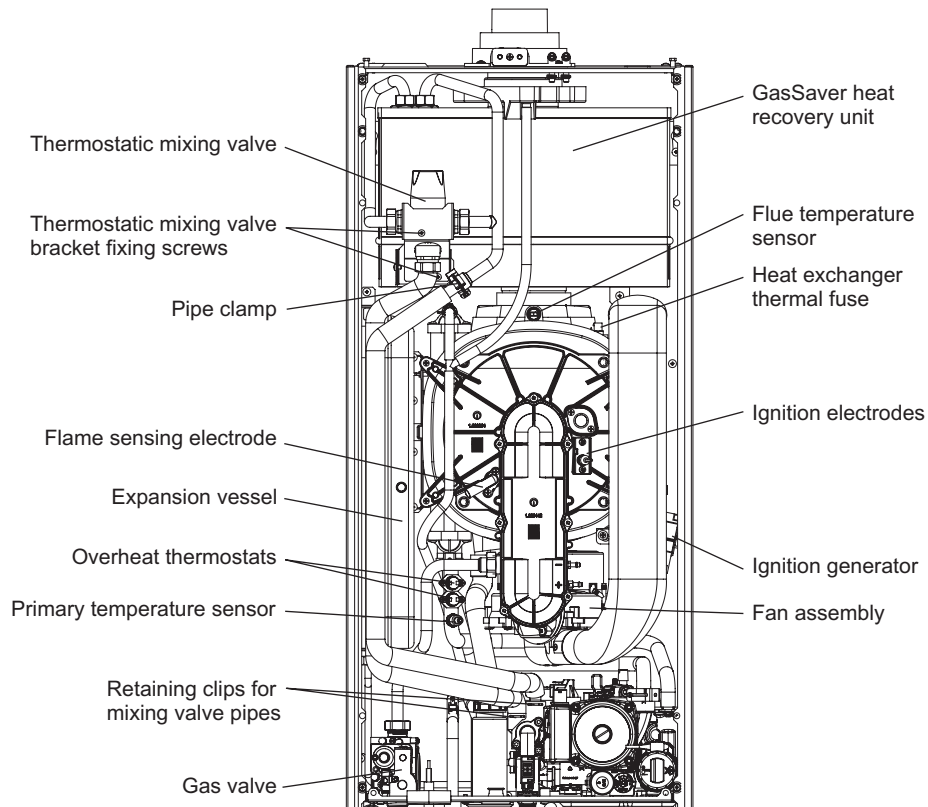

Fig. 30
7.3 ELECTRODES - Fig. 30
7.7 IGNITION GENERATOR - Fig. 30
7.8 OVERHEAT THERMOSTATS - Fig. 30
7.9 FLUE TEMPERATURE SENSOR - Fig. 30
7.10 GAS VALVE - Fig. 30
7.20 PRIMARY HEAT EXCHANGER - Figs. 30 and 33
3. Unplug the connections from the flue temperature sensor and thermal fuse, see Fig. 30.